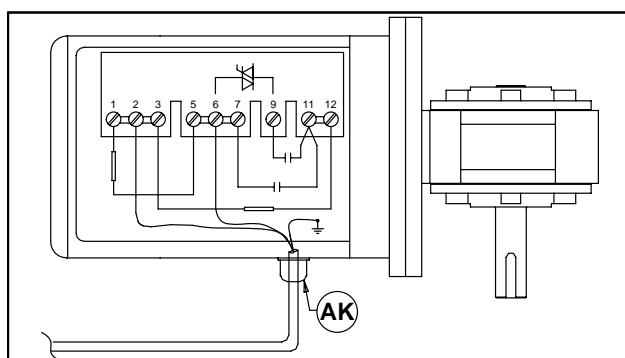

Figure 41
- b. Record wire colors on terminals 2, 6 and ground (\perp) (Figure 41). Loosen terminals 2, 6 and ground and remove wires.
- c. Loosen cord grip (AK of Figure 41) and remove cord.